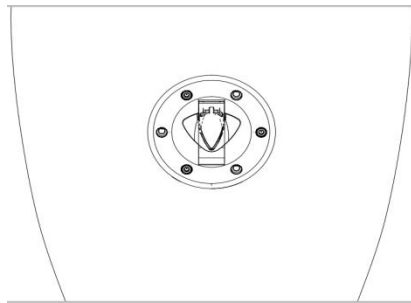

Fig10 Fuel tank cover
4.7 Opening method of fuel tank cap (Fig10)